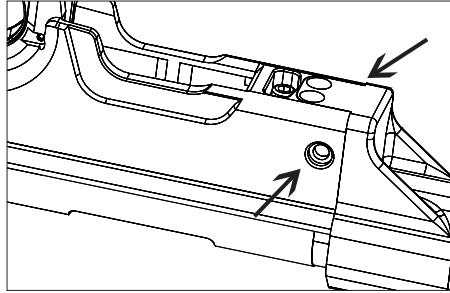

Figure 50 - Hand Guard Screws
7. Next, screw the two hand guard lock screws snugly on both the left and right side of the Center Chassis, ensuring that the hand guard is straight using a long handle 1/8" hex wrench. (Fig 50)